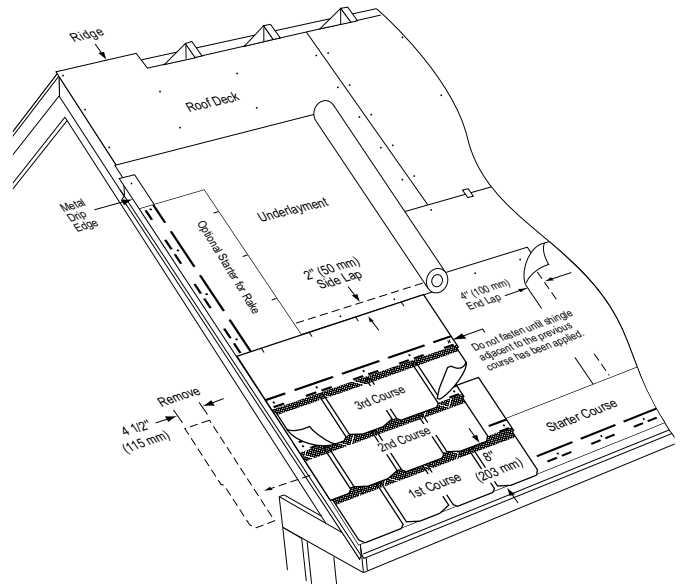

Figure 17-6: Applying the first three courses on a standard slope.
**1ST COURSE:** (Figure 17-6). Apply a full Highland Slate shingle at the lower left corner of the roof, flush with the starter course left corner. Fasten with 5 nails.
**2ND COURSE:** (Figure 17-6). Cut  $4\frac{1}{2}$ " off the left end of a full shingle and apply remaining  $31\frac{1}{2}$ " piece over left edge of 1st course. Fasten with 5 nails and ensure 8" exposure.
**SUCCEEDING COURSES:** Begin application of the 3rd course with a full shingle. Fasten with 4 nails, **leaving the right end unfastened until later.** (Figure 17-6). Begin the 4th course using a shingle with  $4\frac{1}{2}$ " cut off its left end. Fasten with 5 nails. To begin the application of subsequent courses, alternate full shingles [36"] and cut shingles [ $31\frac{1}{2}$ "] up the rake edge, fastening as described above.